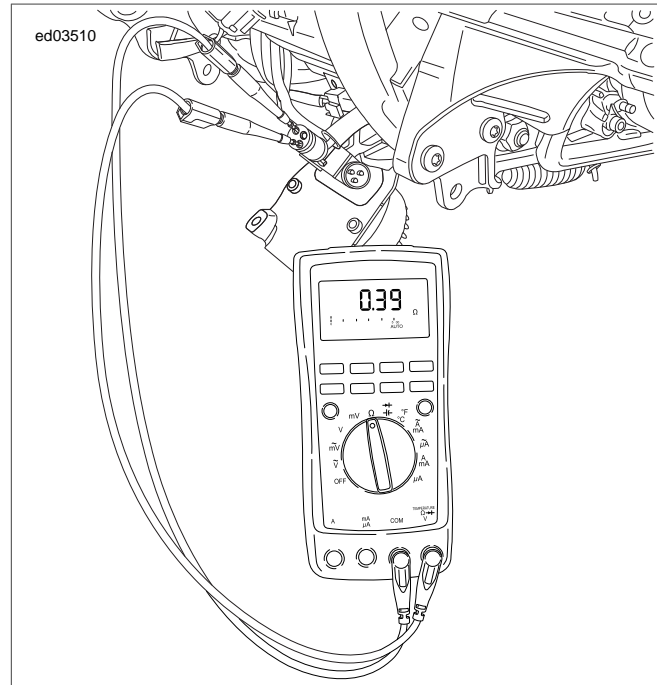

Figure 3-14. Check for Stator Resistance (Typical)
4. See Figure 3-14. Remove ground lead. Test resistance across stator [47B] terminals 1-2, 2-3 and 3-1.